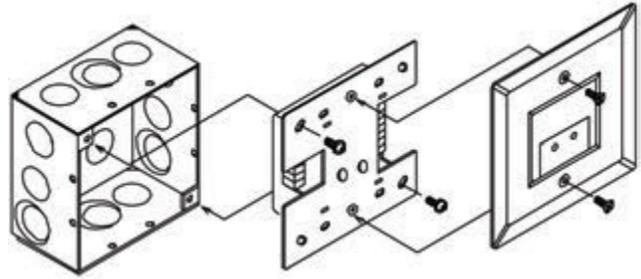

Figure 1: Installation into the compatible electrical box
- Compatible conventional smoke detectors and bases are described in the Installation Instructions (Fig. 1)